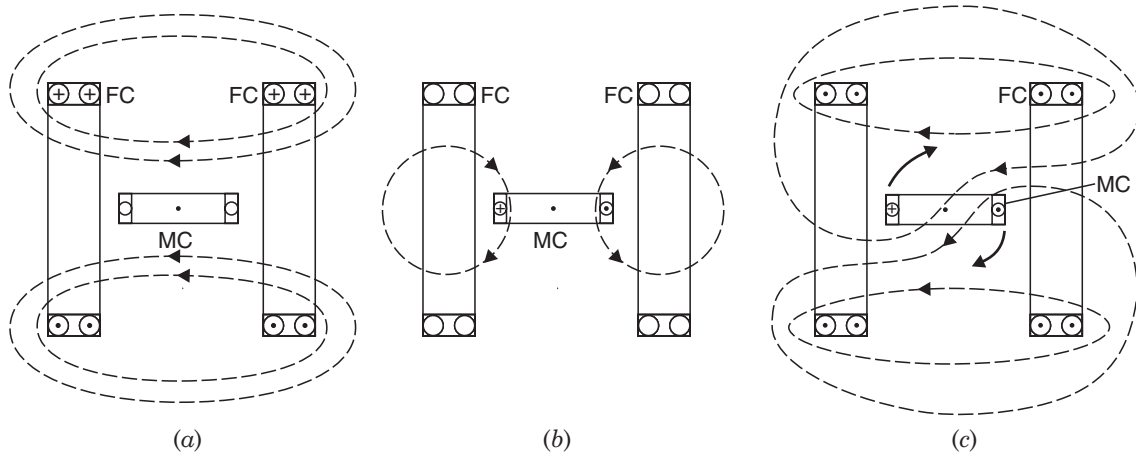

Fig. 20. Magnetic fields due to fixed and moving coils.
- Fig. 20 (a) shows the magnetic field due to current flowing through *FC* (I_1) in the direction indicated by the dots and cross.
- Fig. 20 (b) shows the magnetic field due to current (I_2) in *MC*.
- Fig. 20 (c) shows the combined effect of the above magnetic fields. By combining these magnetic fields it will be seen that when currents (I_1 and I_2) flow simultaneously through *FC* and *MC*, the resultant magnetic field is *distorted* and effect is to exert a clockwise torque on *MC*.